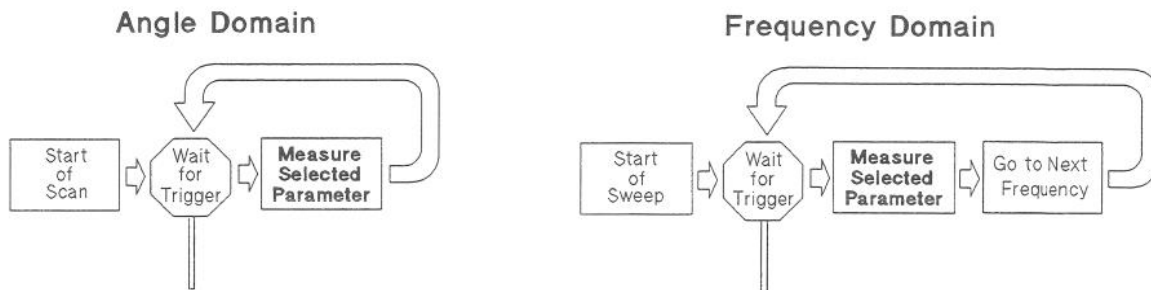

Figure 4-1. Default External Triggering Flowchart (single parameter)
3. Wait for another trigger (see Figure 4-1).